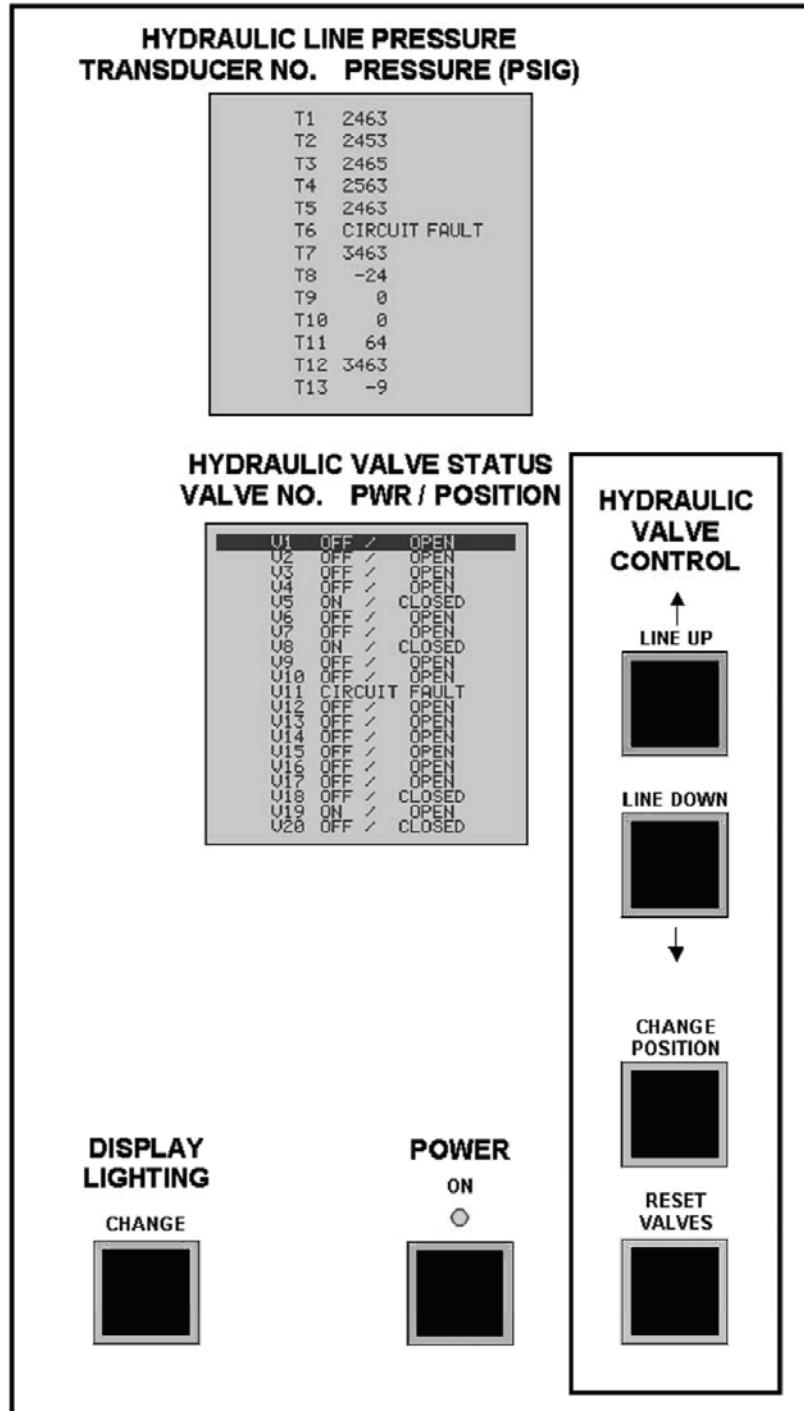

Figure 2. Typical HDC Control Box Test Display (Not The Start-up Display)
- I. Confirm that the HDC Control Box displays the pressure transducer number, hydraulic line pressure, solenoid valve number, valve power status (on/off) (PWR), and valve position (open/closed) status similar to Table 1 (for the solenoid valves). (Note: a CIRCUIT FAULT message indicates a disconnected or malfunctioning wire harness, electrical cable, or defective component. Check all connections in the event of a CIRCUIT FAULT message as shown in the test display example on Figure 2).